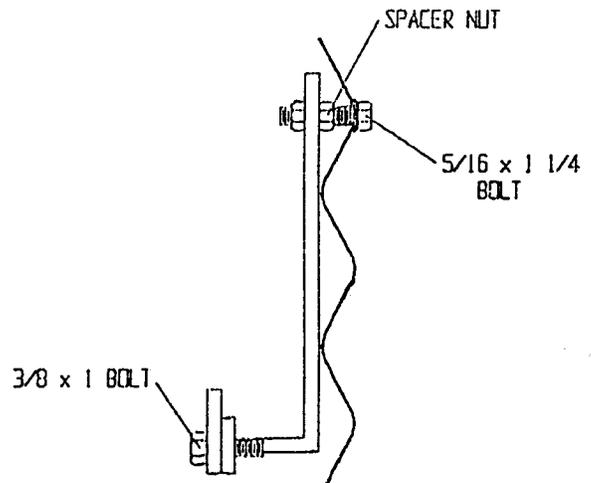

FIG. 1 - TRACK PROFILE - BOLTS second nut on each top bolt. Do not tighten at this time. Figs. 1 and 2.
1. Insert 1-1/4" bolts in every other hole around top of bin (approximately 18" spacing), for bins smaller than 30'. For bins 30' and larger, place bolts in every hole (approximately 9" spacing) except at seam. Tighten 5/16" spacer nuts onto bolts. Figs. 1 & 2.
- Tighten nuts on top bolts of brackets. Fig.1
- Mount first segment of track in bin, Fig. 1. Punch or drill holes in top sheet to match brackets. Bolt top bolts in place on each bracket of the first track section. Figs. 1 and 2.